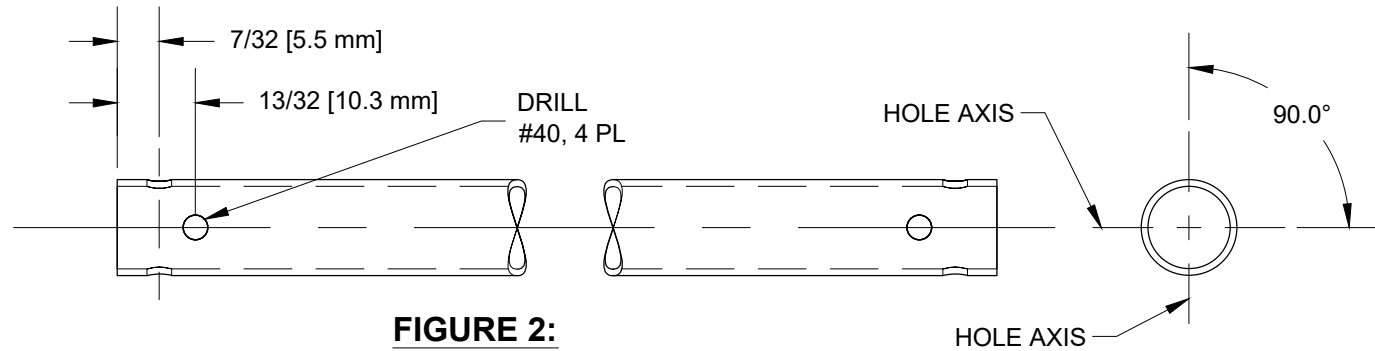

FIGURE 2:
Step 2: Drill #40 the four pilot holes in each end of both CS-00013 Bellcrank to Aileron Pushrods as shown in Figure 2. Use a drill press to drill the holes and use a vee-block to support the pushrod tube while drilling.